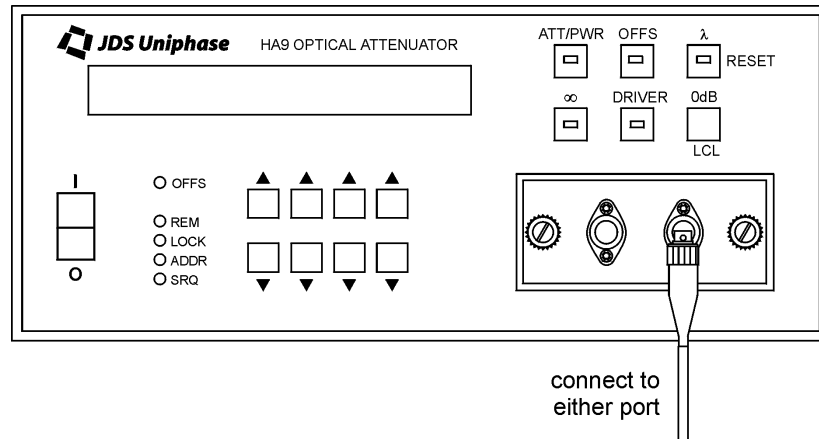

Figure 9: Using the Attenuator
1. Connect the device under test to the unit (Figure 9).